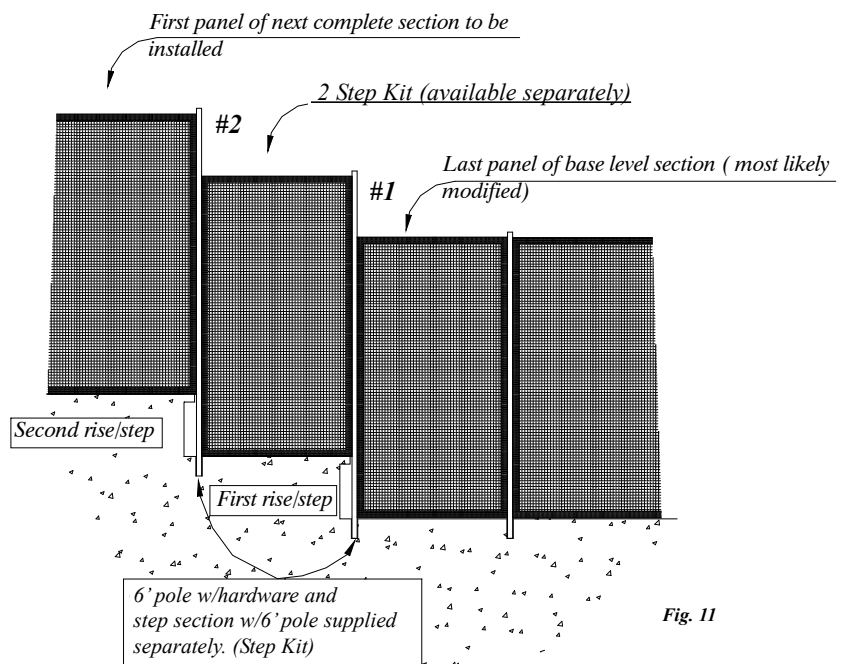

Fig. 11
1. Drill the hole for the **step kit** (pole #2) on the rear of the step. (See figure 11) Measure the distance from the center of the hole to the center of pole #1. You will need to do a field modification (See Section Modification, page 3). Remember to add 1/2" to the dimension you measured, and cut the step section to that measurement. Create the finished edge as per step 6a and 6b in Section Modification.